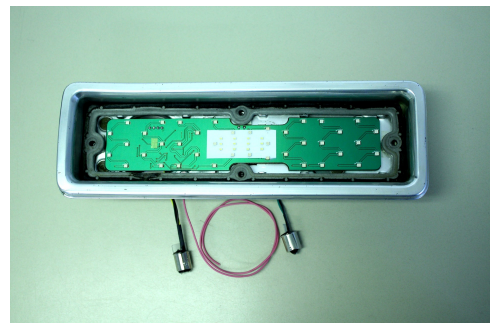

Figure 4
- 8.4. Remove the cover tape from the mounting foam on back of panel. Align the LED panel within the edges of gasket in the housing. (See Figure 4). Press firmly into place over the 3 areas over the LED panel mounting tape pieces. Once installed, the assembly should be as shown in Figure 4.